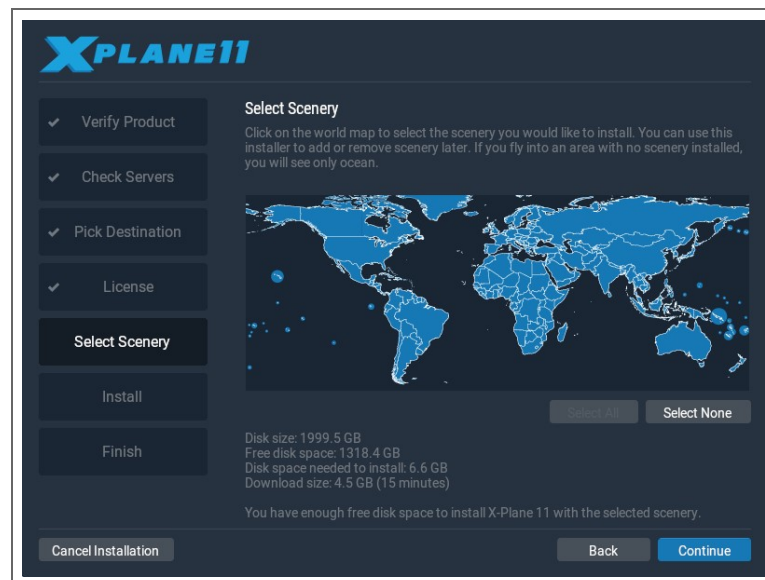

Figure 3.3: All scenery selected for installation after clicking “Select All”
6. Select the scenery you would like to install. Parts of the world that are currently selected will be a bright blue color (as all tiles are in Figure 3.3).